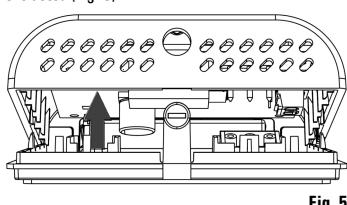

Fig. 5
- 3** Lift up the cover, while pressing it slightly, until it is fully extracted (Fig. 5).